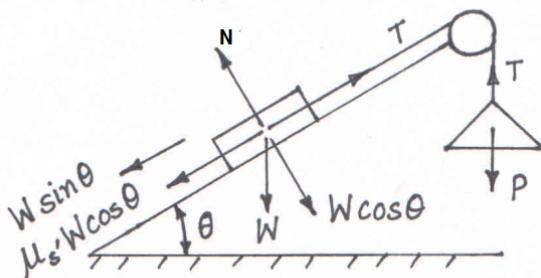

FIG. 3
The second method used to determine coefficient of static friction is shown schematically in Fig 3. Here a block is placed on an adjustable incline and a force parallel to the inclined surface (P) is applied on the block in the upward direction, such that the block is on the verge of movement. The downward forces acting along the plane is $W\sin \theta$ and $\mu_s' W\cos \theta$. Since at the impending state the net force on the block is zero, it means that upward force on the block is equal to the downward force along the plane. Here